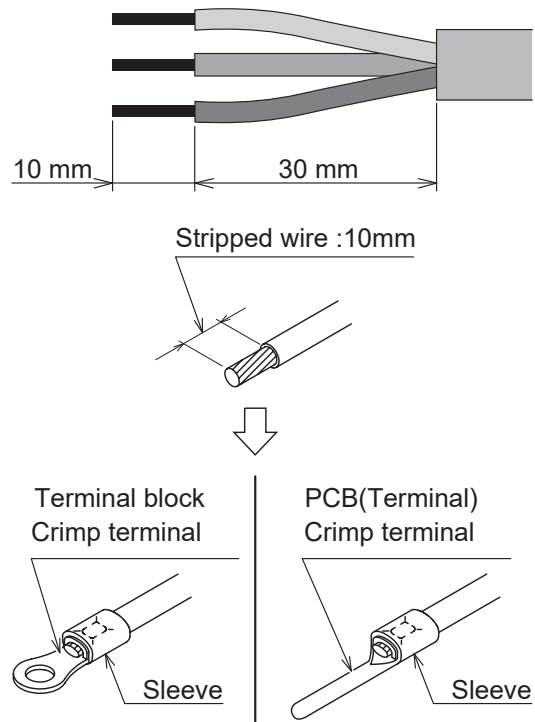

Figure 6-6: Circular wiring connection
- Strip the ends of connecting cables in accordance with Figure 6-6.
- Crimp terminals with insulating sleeves can be used if required as illustrated in Figure 6-6 for connecting the wires to the terminal block. Stranded conductors shall not be soldered.